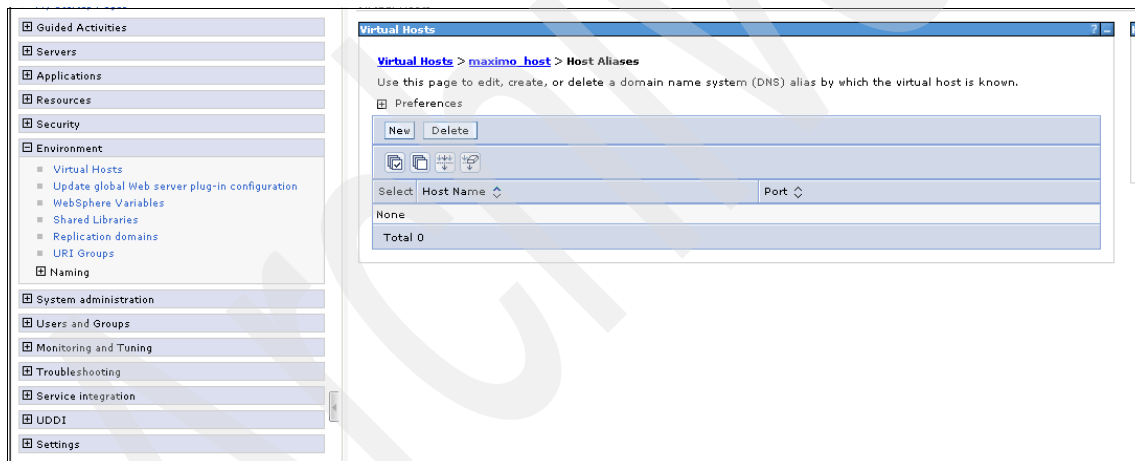

Figure A-14 New host alias
16..From the Host Aliases link, click **New** (see Figure A-14).